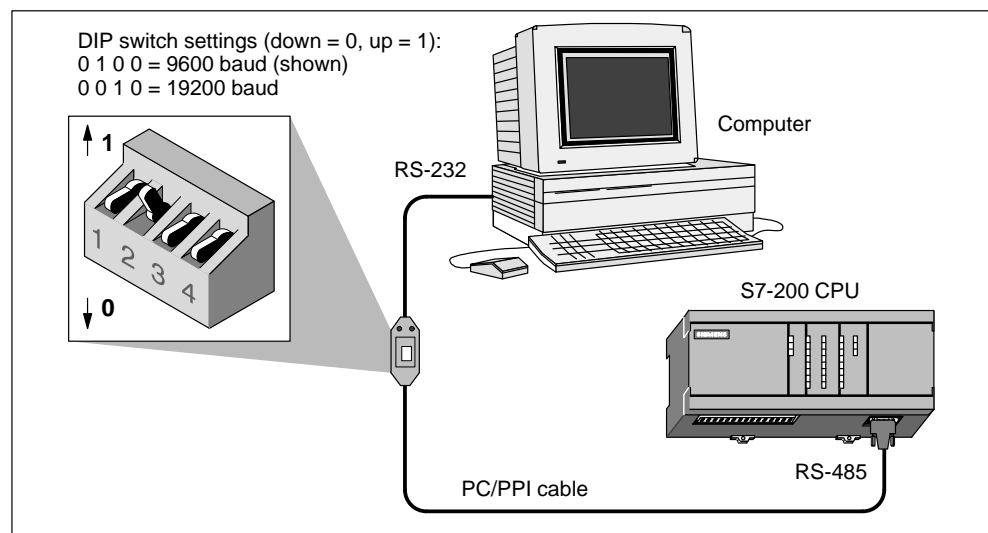

Figure 3-3 Communicating with a CPU in PPI Mode
- A single master device is connected to one or more slave devices. See Figure 3-3.
Figure 3-3 shows a typical configuration for connecting your personal computer to your CPU with the PC/PPI cable. To establish proper communications between the components, follow these steps: